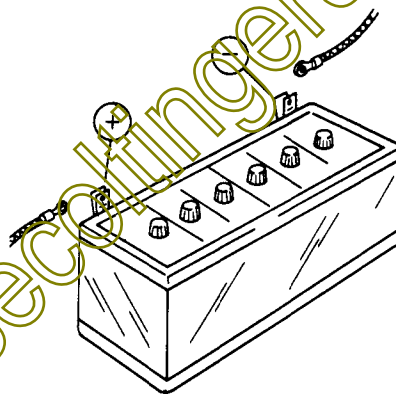

FIGURE 2
D. When servicing the battery care must be taken to connect the wires to the battery as they were before removal. (Fig. 2) See battery manufacturer's instruction for service and storage. Battery should be maintained at 1.260 specific gravity charge.